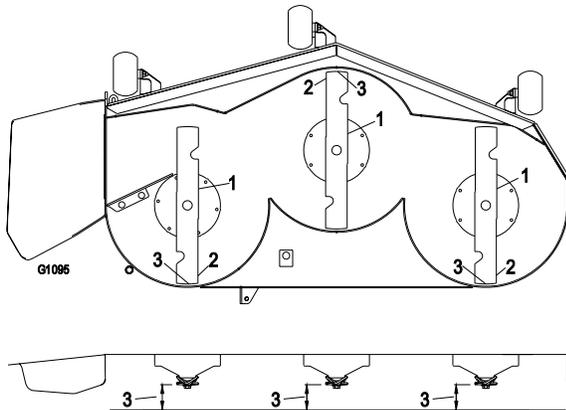

Figure 37
1. Rotate the blades until the ends face forward and backward (Figure 37). Measure from a level surface to the cutting edge, of the blades (Figure 37). Note this dimension.